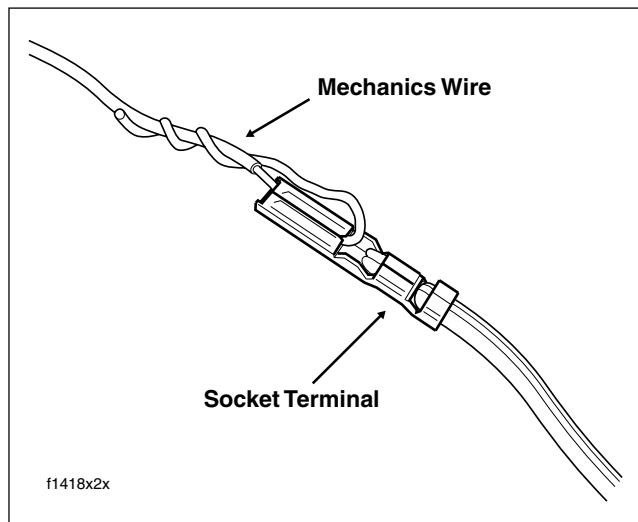

Figure 8-58. Fix Mechanics Wire to Socket Terminals
- Obtain three equal lengths of strong flexible wire for use as mechanics wire. Feed wire through opening in socket terminal and then loop back twisting end until tightly coiled around longer strand as shown in Figure 8-58. Repeat step with remaining socket terminals.